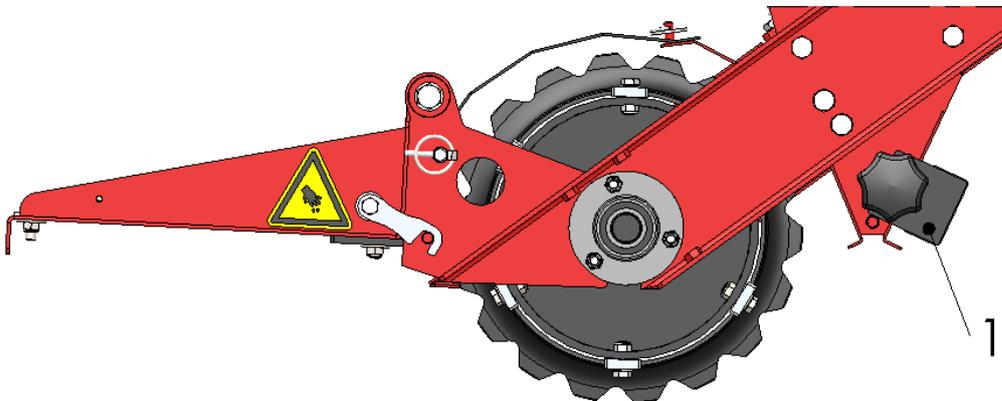

Figure 7
4. Use the seed tray (1) to catch the seeds (see Figure 7). You can slide the seed tray under the hopper.